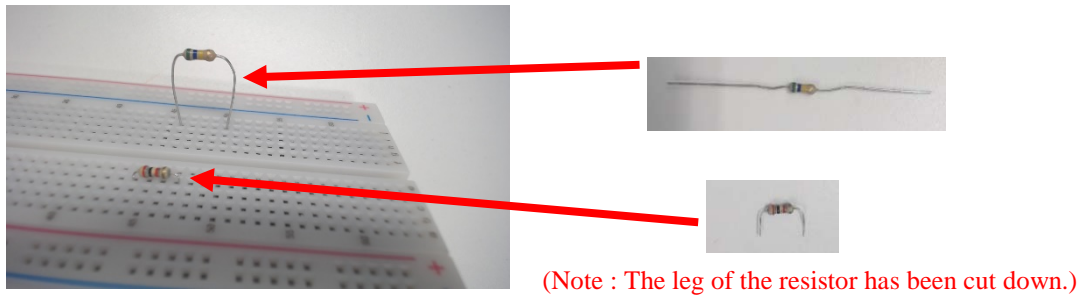
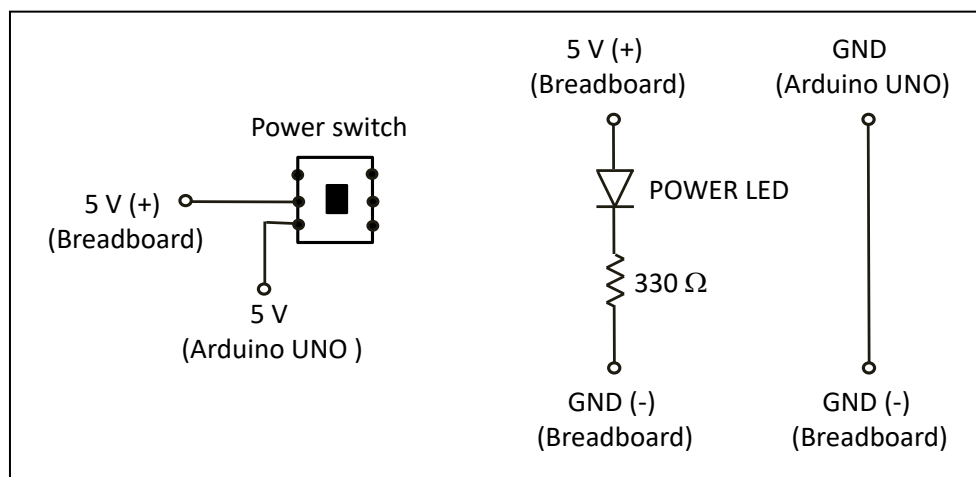

Fig. 11
Fig. 12
- 5.1.5 There is a power LED shown in Fig. 11, 12, 13 to indicate the power is ON. Once the board is powered up, you should always check the status of the power LED. It should be ON all the time. If the LED is suddenly OFF after you inserted something or changed wiring, in that case, you have to immediately unplug the power from the USB power bank and battery compartment, and you should check your circuit. You could refer to the video (video2-power\_LED\_suddenly\_OFF.mp4)
5.2.2. The power switch, LED, and 330 ohm resistor are shown in Fig. 9. The USB fuse extension cable is shown in Fig. 10(a). **For safety, we have to use the USB fuse extension cable to power up the Arduino UNO board as shown in Fig. 10(b).** You could cut down the resistor legs if you want as shown in Fig. 11. Connect power switch with the LED indication, the circuit shown in Fig. 12, and put all the components on the breadboard as shown in Fig. 13, Fig. 14, and Fig. 15. You could refer to the video (video3-power\_switch.mp4) for demonstration.